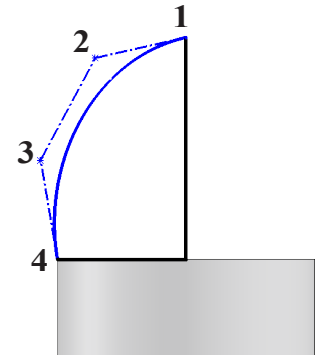

Fig. 8
Step 7. Sketch a **4 control vertex point Spline across line end-points**, **Fig. 8**. Press Escape to end spline.